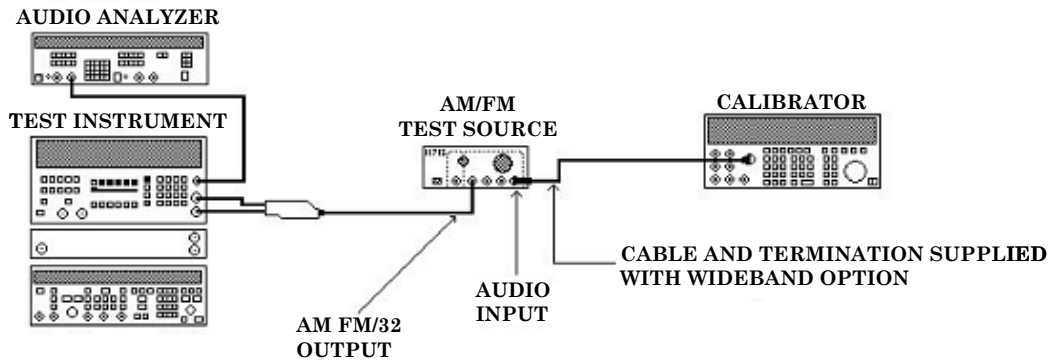

Figure 1. AM distortion.
- (10) Adjust AM/FM test source **CARRIER FREQUENCY TUNE** control for a TI indication of approximately 12.5 MHz.
- (11) Press TI keys as listed in (a) through (f) below:
- (12) If TI indication is not  $\leq 0.01\%$ , perform **b** below.
- (13) Connect equipment as shown in figure 1.